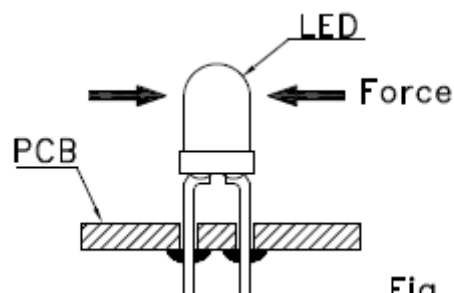

Fig. 9
6. After soldering or other high temperature assembly, allow the LED to cool down to 50°C before applying outside force (Fig.9). In general, avoid placing excess force on the LED to avoid damage. For any questions please consult with LIGHT representative for proper handling procedures.